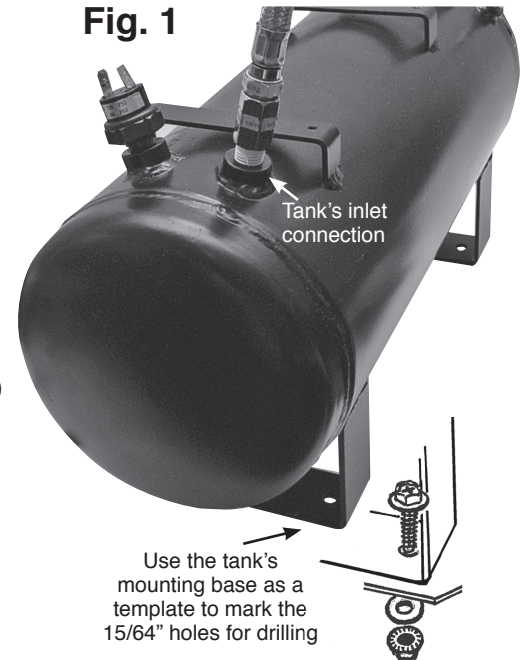

Fig. 2
**IMPORTANT:** Make sure the threaded fitting used to connect to the inlet port of the tank is 1/4" N.P.T. (National Pipe Thread). **IMPORTANT:** The fitting being installed to the inlet port, must have the threads wrapped with Teflon® tape or coated with pipe sealant to prevent air leaks. (Fig. 2)